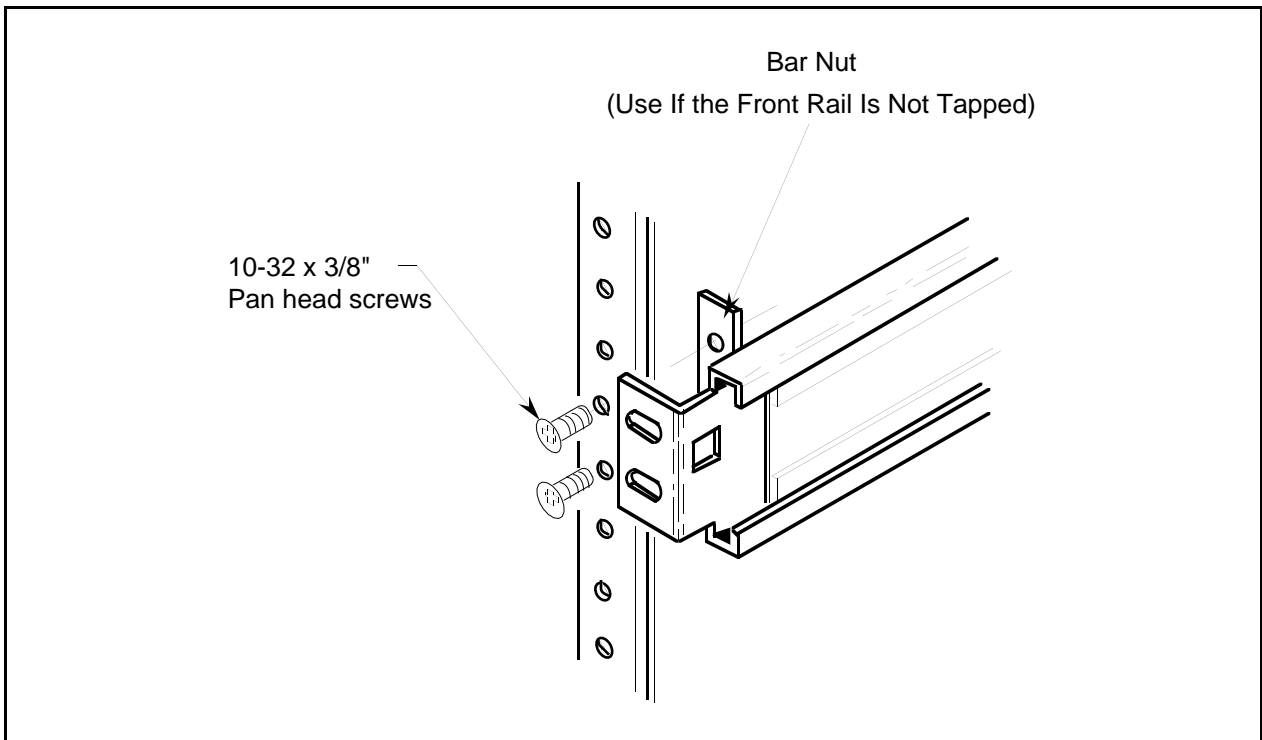

Figure 5. Front Rail Mounting Method
2. Attach a rear mounting bracket to each stationary track section. Use two 10-32 x 3/8 inch pan head screws and one bar nut for each assembly. Choose an alignment to match the rail spacing. Do not fully tighten the screws. The front rail mounting method is shown in Figure 5. Figures 6a and 6b illustrate the rear rail mounting methods for deep and shallow racks, respectively.